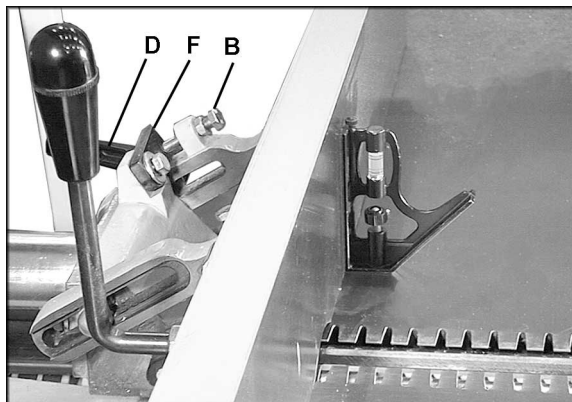

Figure 23
1. Loosen lock handle (D, Figure 23) and tilt fence until the stop screw (B, Figure 23) contacts the stop block (F, Figure 23).
2. Place a square or machinist's protractor (not provided) on the table and flush against the fence surface. See Figure 23.
3. If adjustment is necessary, loosen the hex nut on the stop screw (B, Figure 23) and turn the stop screw as needed until the fence is flush with your square.